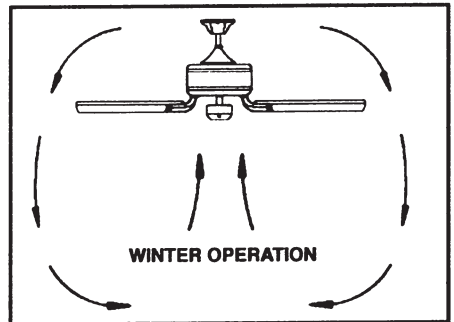

FIG. 19
**Cool weather** – (Clockwise) An upward airflow moves warm air off the ceiling area as shown in Figure 19. This allows you to set your heating unit on a cooler setting without affecting your comfort.